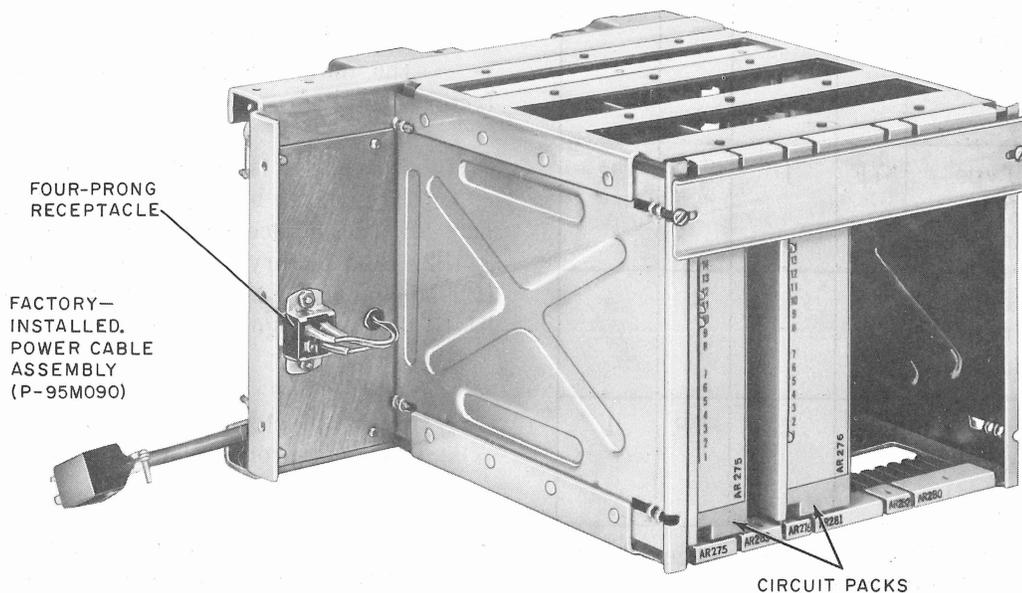

Fig. 1—Data Auxiliary Set 824B1, Front View (Data Auxiliary Set 824B2 is Identical With a 26A Power Unit Attached)
1.01 This section contains installation and connection information for Data Auxiliary Sets (DAS) 824B1 and 824B2. Refer to Fig. 1 for an illustration of DAS 824B1.